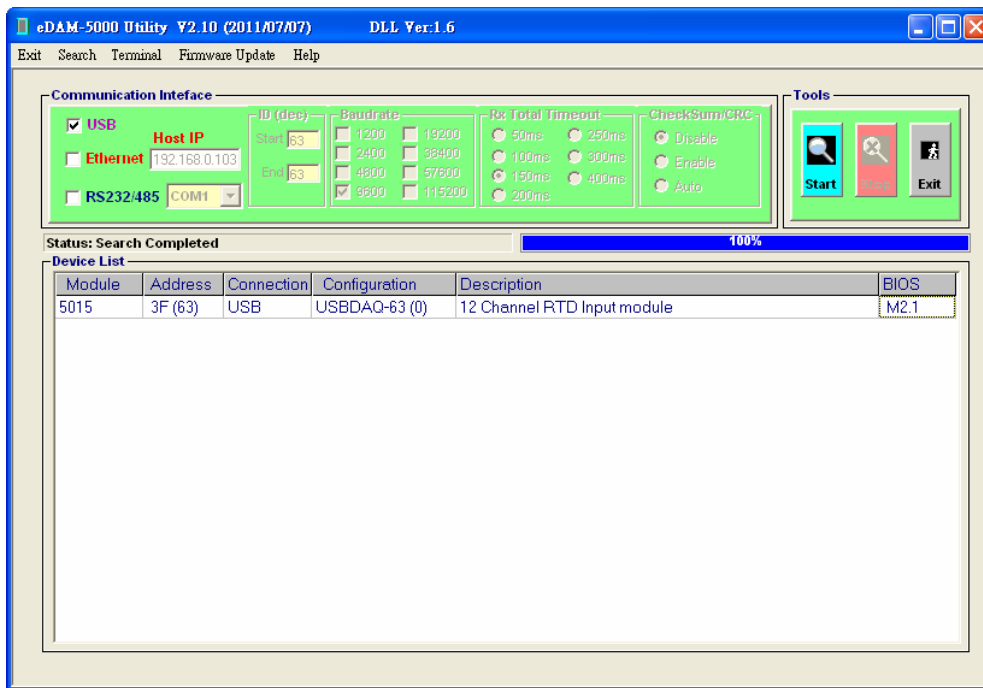

Figure 3
- Executes provided EDAM5000 utility called **"E5KUtility.exe"** (see Figure 3)